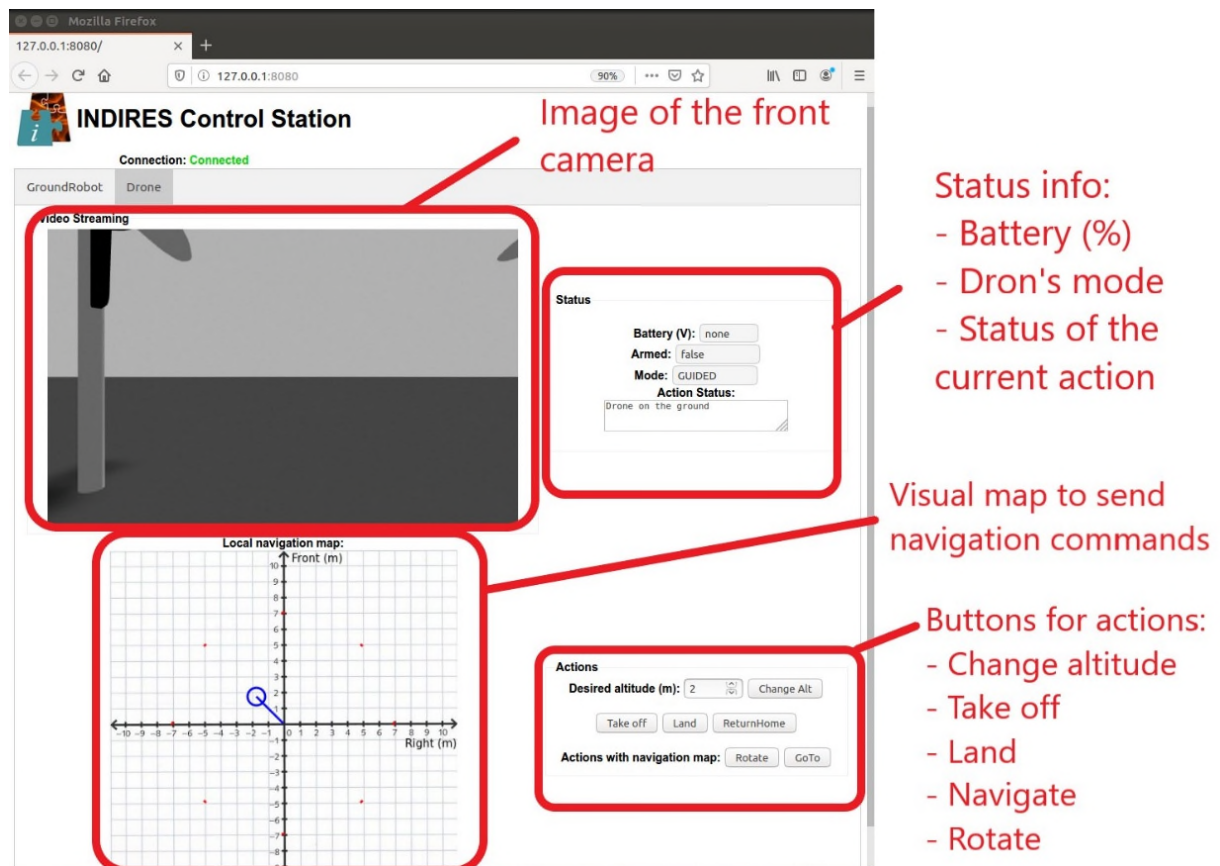

Figure 10 – Website Aerial Vehicle Tab
The drone tab is also structured in frames, like the ground vehicle. Some of the frames show information and others allow the user to command the aerial vehicle. The information and actions available are as follows (see *Figure 10*):
- **Rotate** This action allows you to rotate the yaw angle of the drone. The angle and direction of rotation is given by the local navigation map in the bottom-left frame. You can drag and drop the blue circle and the drone will turn by the angle given by the front axis and the blue line that connects the center with the blue circle (see *Figure 10*).